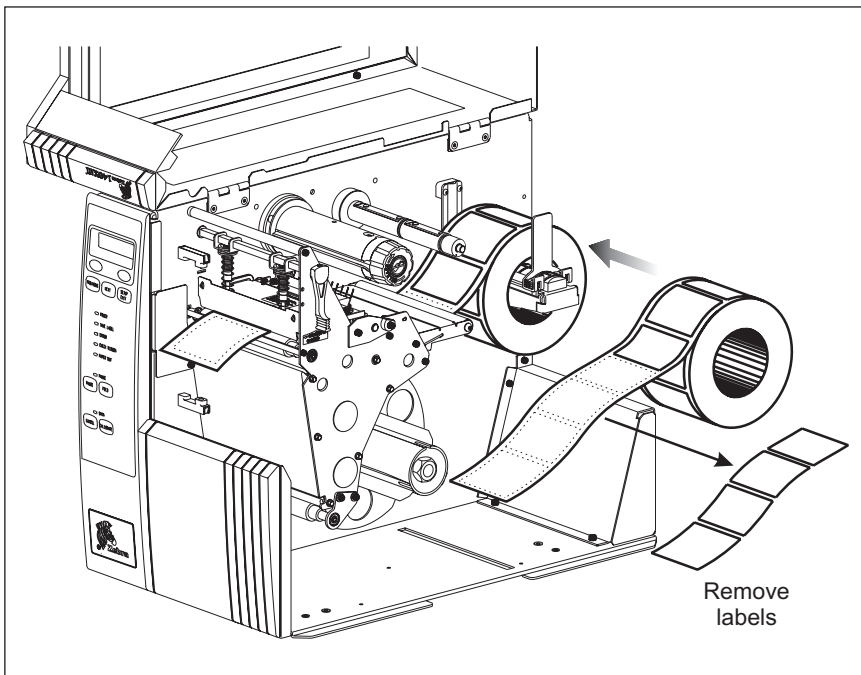

Figure 11
4. Open the printhead. Remove approximately 8” (203 mm) of labels from the media roll, enough so that only the backing material is threaded between the media sensors when the media is loaded (refer to Figure 11).